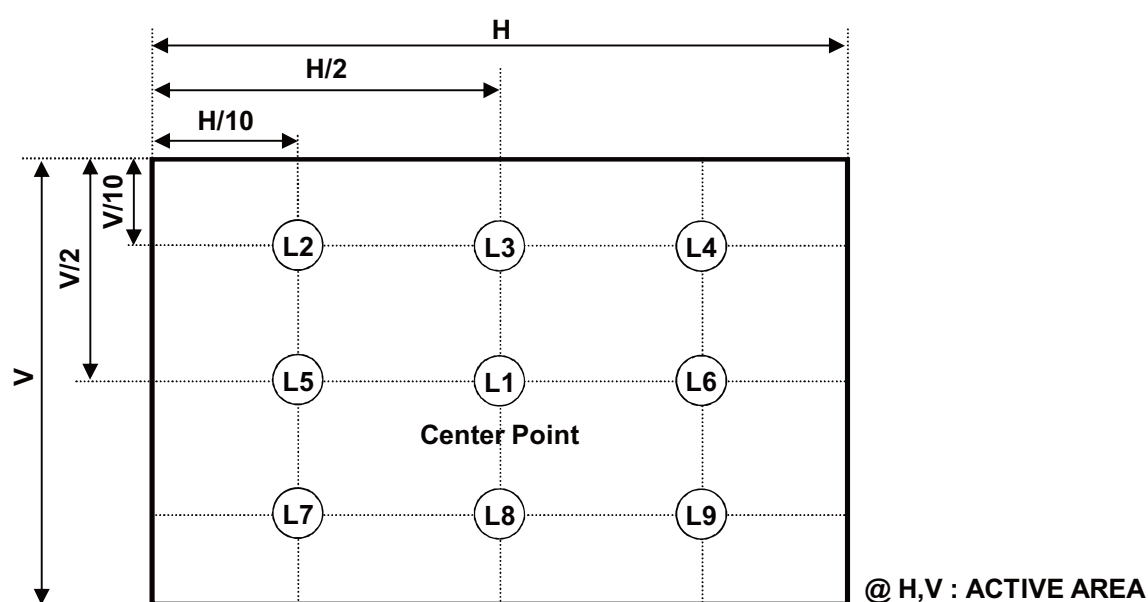

FIG. 2 9 Points for Luminance Measure
5. Surface luminance are determined after the unit has been 'ON' and More than 15 Minute after lighting the backlight in a dark environment at 25±2°C. Surface luminance is the luminance value at center 1-point across the LCD surface 50cm from the surface with all pixels displaying white. For more information see the FIG. 2.
For more information see the FIG. 2.